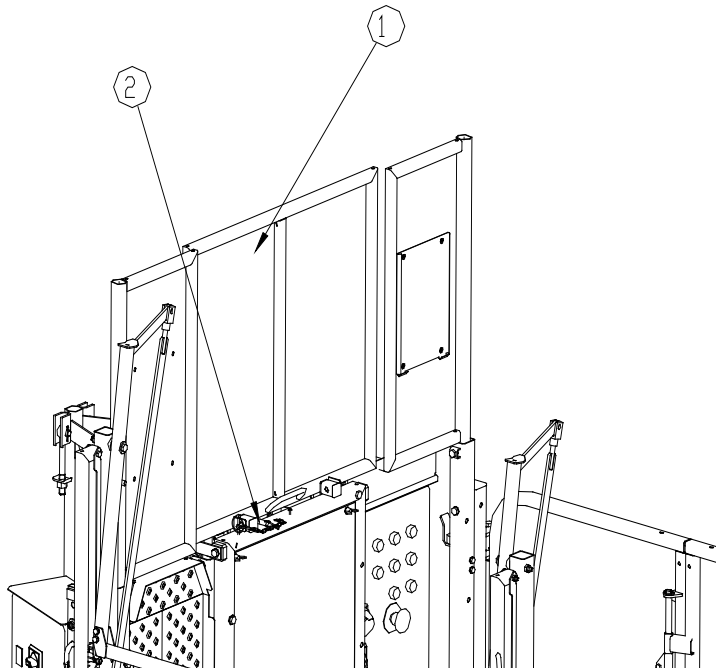

Fig.H.39 Mast protection
65. Lock mast protection (1-fig.H.39) with the opposite pin (2-fig.H.39).